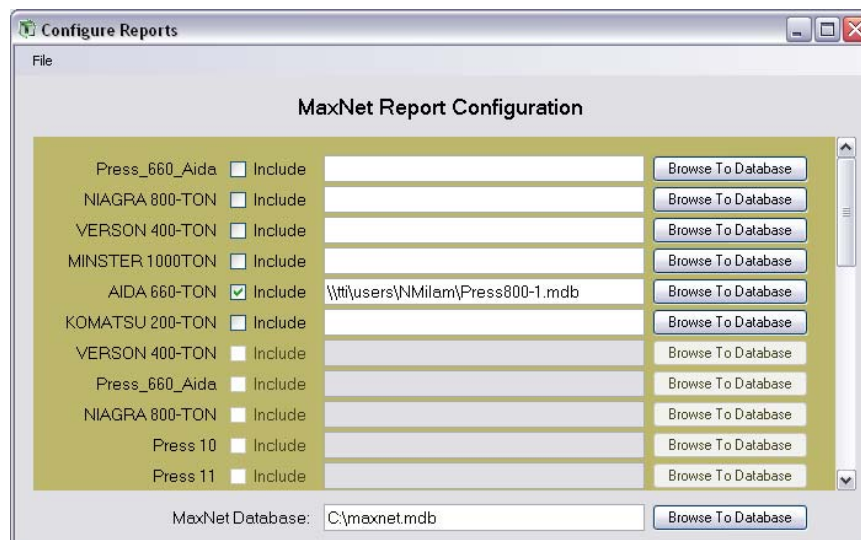

Figure 6-I-1 Report Configuration
- This is done manually by selecting UPDATE >> DATABASE from the main menu selection in the reporting windows. An update progress bar and window will appear displaying the progress of the update, see figure 6-II-1 below. Once the update is complete select “Close”.